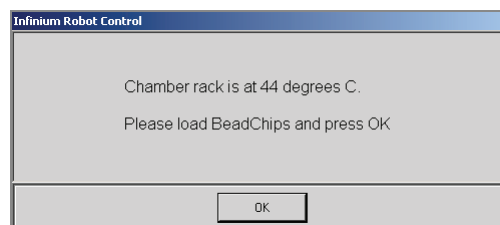

Figure 178 Load BeadChips Message
4. When prompted (Figure 178), load the BeadChips and click **OK**.